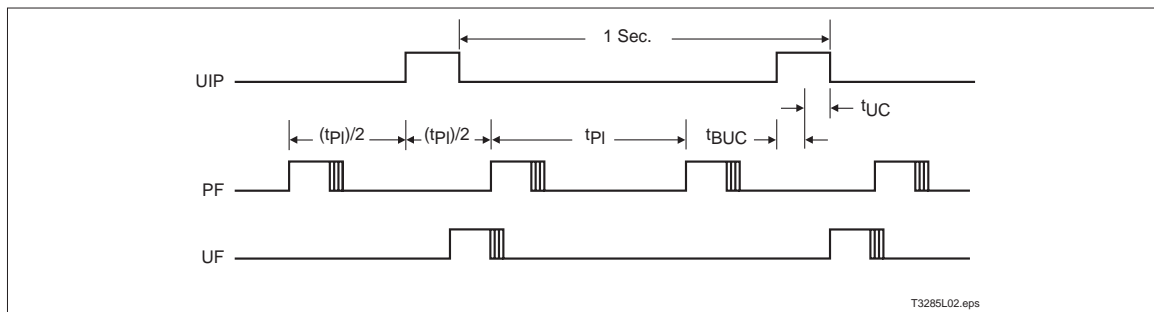

Figure 3. Update-Ended/Periodic Interrupt Relationship
- Enable the update interrupt event to generate interrupt requests at the end of the update cycle. The interrupt handler has a maximum of 999ms to access the clock bytes before the next update cycle begins (see Figure 3).
- Poll the update-in-progress bit (UIP) in register A. If UIP = 0, the polling routine has a minimum of tBUC time to access the clock bytes (see Figure 3).
- Use the periodic interrupt event to generate interrupt requests every tPI time, such that UIP = 1 always occurs between the periodic interrupts. The interrupt handler has a minimum of tPI/2 + tBUC time to access the clock bytes (see Figure 3).